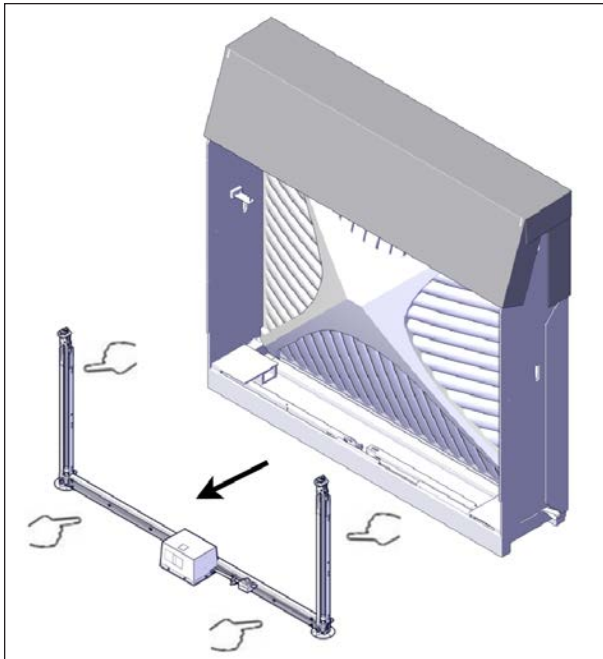

FIGURE 24: MOTOR FRAME ASSEMBLY REMOVAL
11. With the help of another worker, remove the motor frame assembly from the crate. Position one hand under the horizontal portion of the motor frame and the other hand on the vertical jack see Figure 24. Handle and carry the assembly with care, so that the jacks follow the natural bending of the U- frame. Install the motor frame assembly on a level surface and make sure it will not fall.